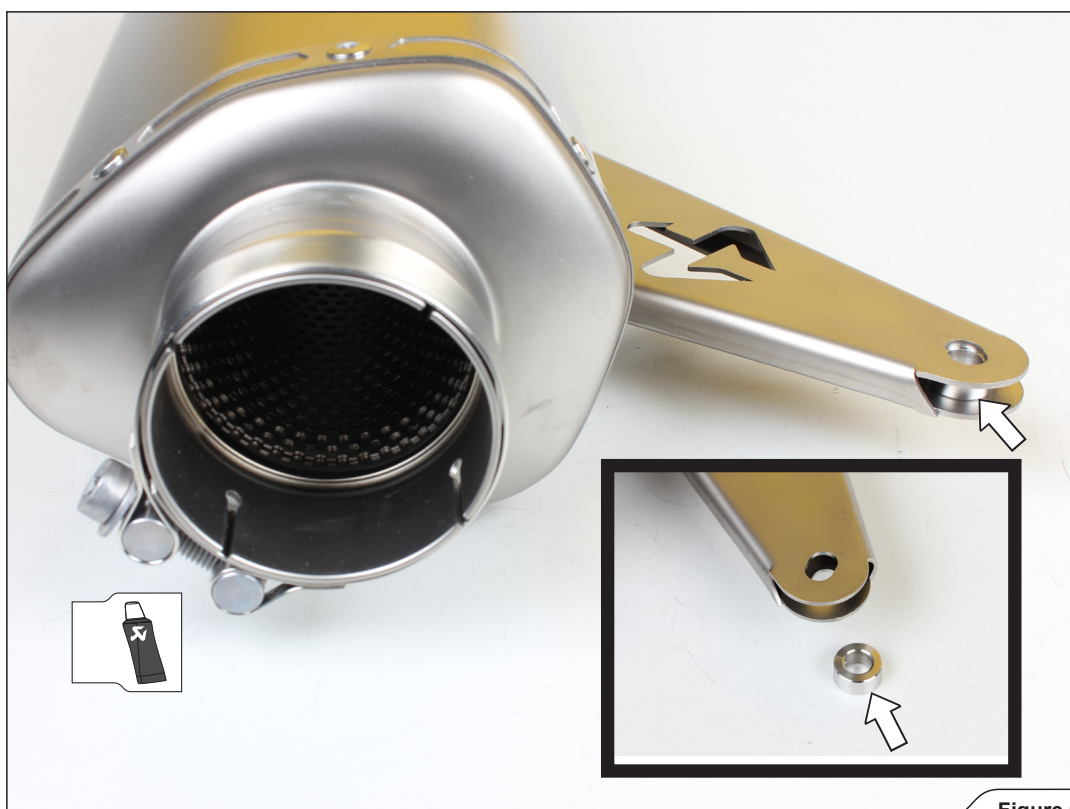

Figure 6
3. Assemble the clamp onto the muffler's inlet and distance washer into the bracket, as shown (**Figure 6**).